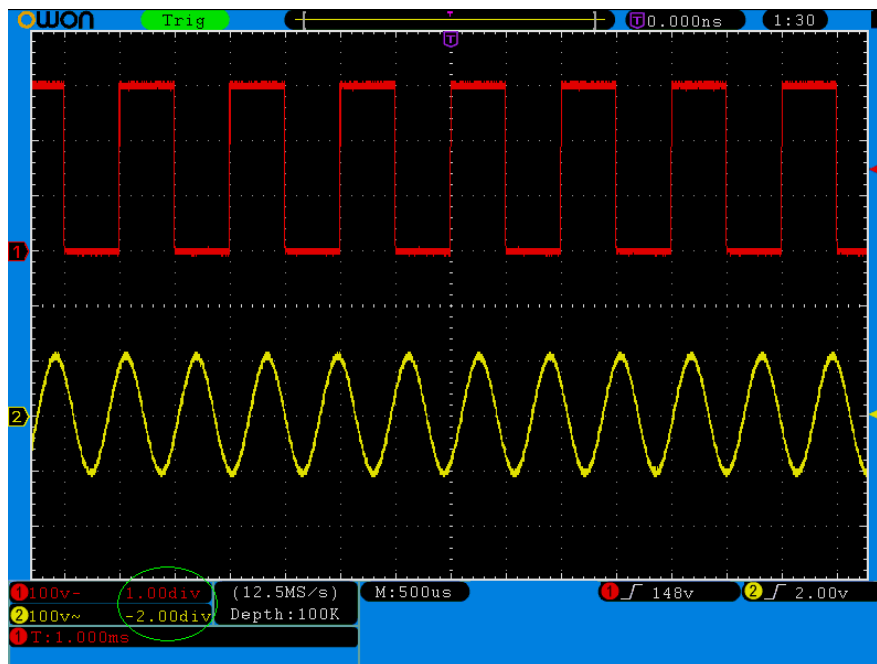

Figure 5-14 Information about Vertical Position
3. When the vertical position of the channel waveform is adjusted, the changed value is displayed at the left bottom corner of the screen (see *Figure 5-14*).